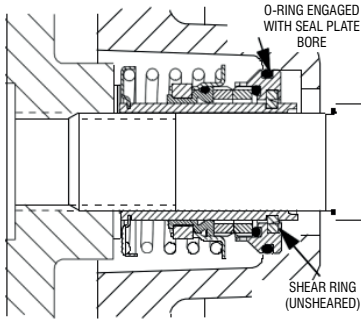

Figure 5. Seal Partially Installed
When installing a new cartridge seal assembly, remove the seal from the container, and lubricate the external stationary seat O-ring with light oil. Slide the seal assembly onto the shaft until the external stationary seat O-ring engages the bore in the seal plate. Clean and inspect the impeller as described in Impeller Installation and Adjustment. Install the full set of impeller shims (19) provided with the seal, and screw the impeller onto the shaft until it is seated against the seal (see Figure 5).